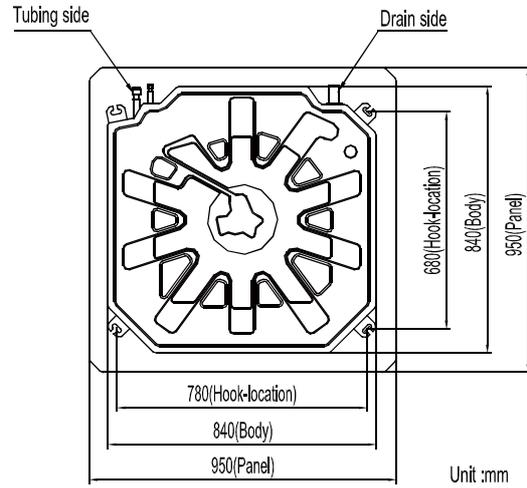
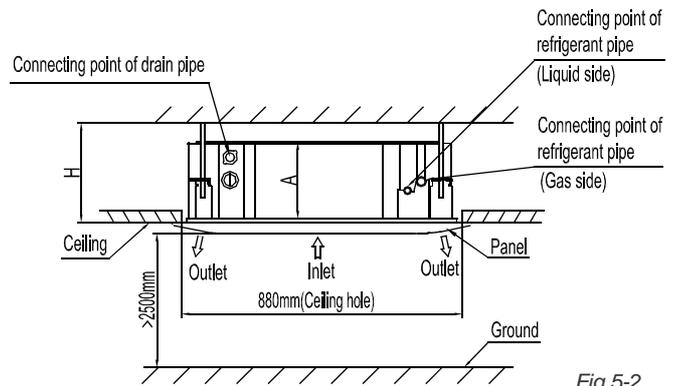
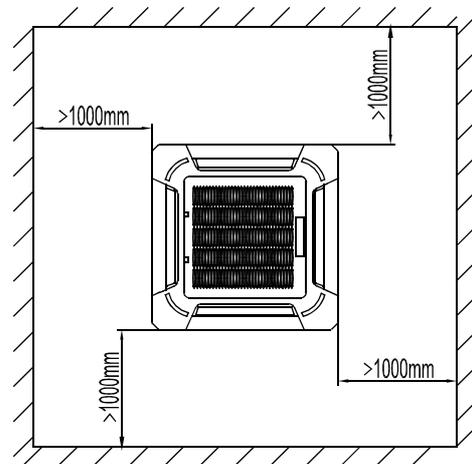

Fig.5-1
Fig.5-2
Fig.5-3
(Refer to Fig.5-1, Fig.5-2, Fig.5-3 and Table 5-1 for specification.)
- Cut a quadrangular hole of 880x880mm in the ceiling according to the shape of the installation paper board. (Refer to Fig.5-2)